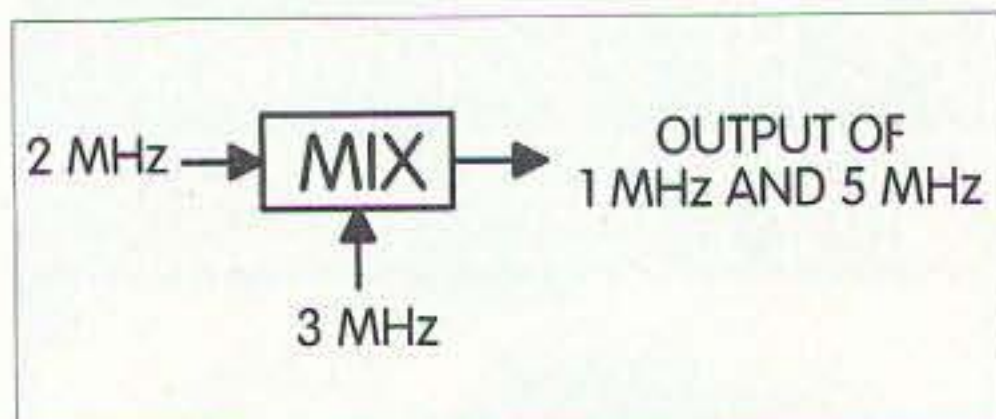

Fig. 3. Two fundamental signals being mixed, producing sum and difference beat frequencies.
input signal to be at one frequency and the frequency selective circuits within the receiver to be at another fixed frequency. As shown in Fig. 3, a signal arriving at the antenna of the receiver at 2 MHz can be converted to a frequency of either 1 MHz or 5 MHz by beating it against a signal at 3 MHz. If selectivity improvement is desired, then the heterodyned frequency of 1 MHz would be chosen. The 5 MHz signal is higher than the original 2 MHz signal and, therefore, the tuned circuits would exhibit a wider bandwidth. The 3 MHz signal is called a local oscillator (LO) signal because it is produced within the receiver for the purpose of heterodyning it with an incoming signal. Because the result of this heterodyning produces a new signal (1 MHz), this new signal is called an intermediate frequency (IF) signal. An IF amplifier is fixed tuned to the desired frequency.